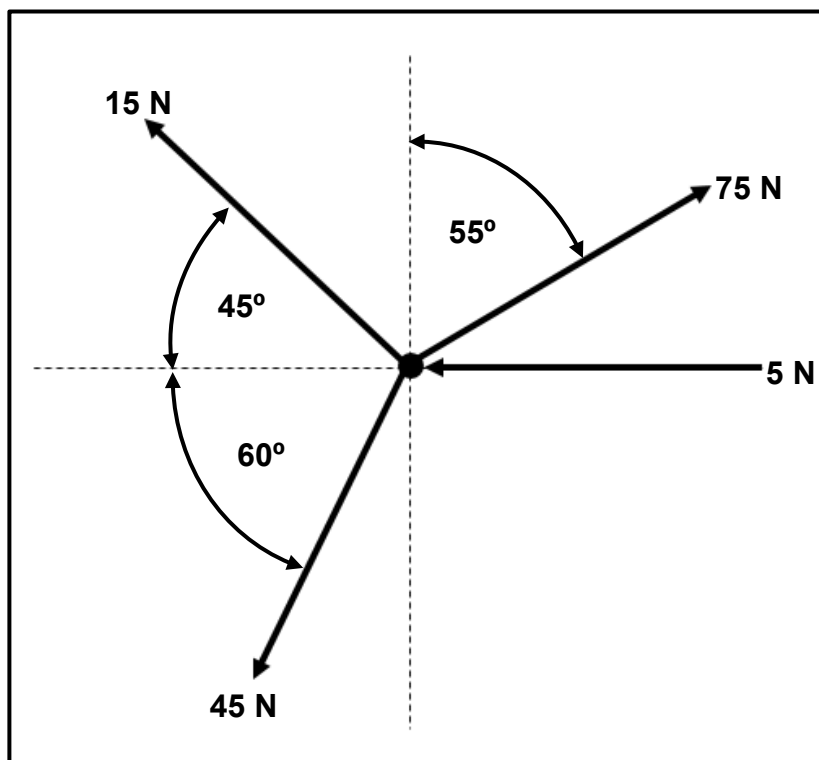

FIGURE 8.1
- 8.1 FIGURE 8.1 below shows a system of forces with THREE pulling forces and ONE pushing force acting on the same point.
HINT: Draw and complete the diagram in FIGURE 8.1. Show ALL the horizontal and vertical components before you do the calculation.